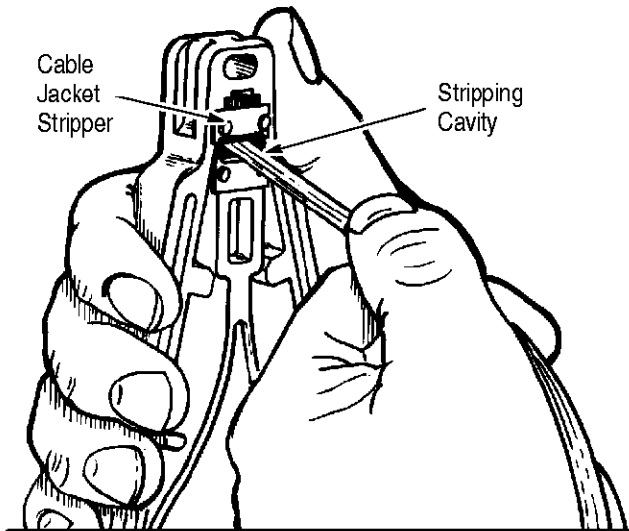

Figure 4
2. Hold tool as shown in Figure 4 and insert cable into stripping cavity.